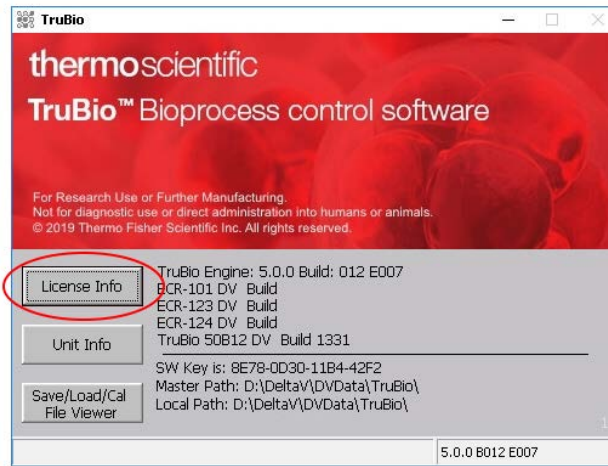

Figure 1.2. "License Info" button.
2. Select **License Info** (Figure 1.2) to display the current licensing information for the system.